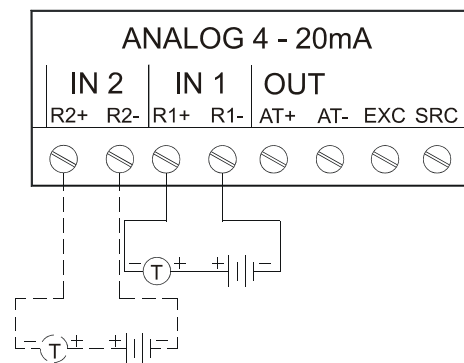

Figure 37: External Excitation—Two Wire.
**Note:** If the analog input is to be wired as in Figure 37, it is preferable to earth the negative leg of the loop supply. Check the manuals of your transducer and power supply to determine if this will be acceptable.